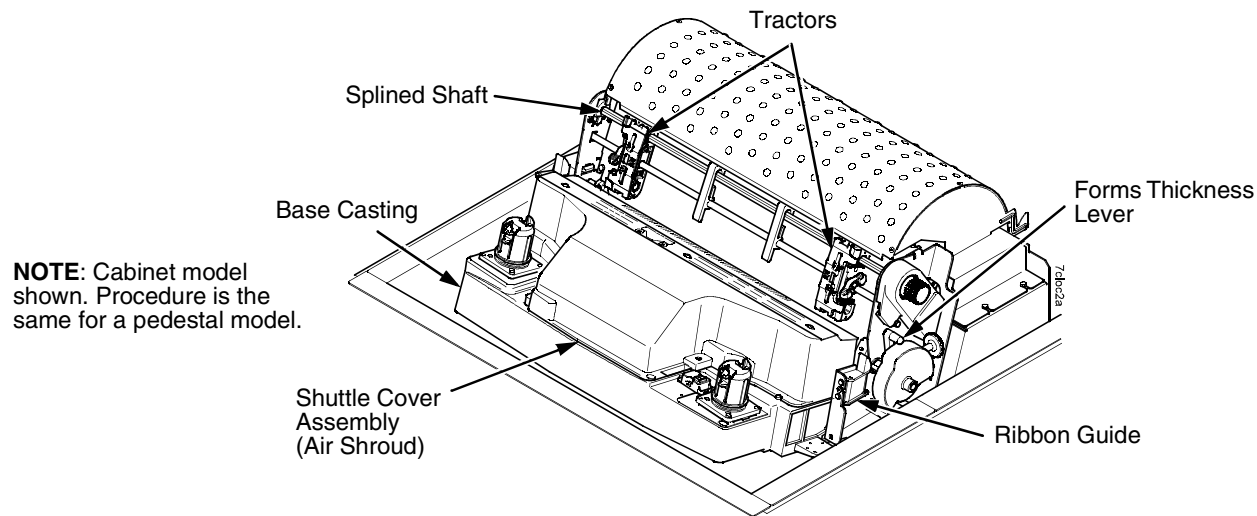

Figure 53. This figure shows where to clean inside the cabinet or top cover.
6. Using a soft-bristled, non-metallic brush, wipe paper dust and ribbon lint off the tractors, shuttle cover assembly, base casting, and ribbon guides. Vacuum up the residue. (See Figure 53.)